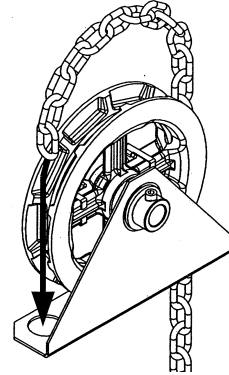

Figure 9 - Hand Chain Installation
1. Run the hand chain through the pocket wheel and through the chain guide, see Figure 9.